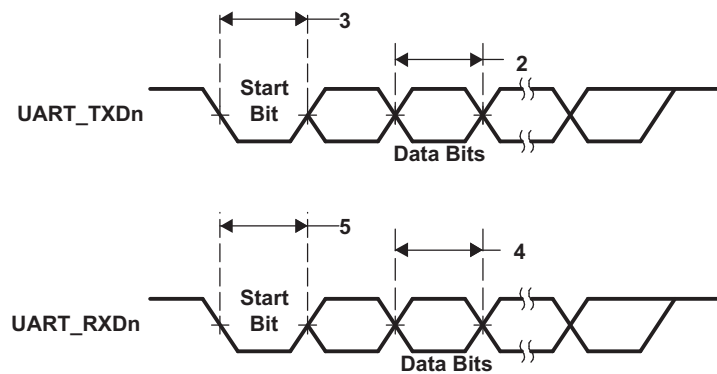

**Figure 6-65. UART Transmit/Receive Timing**
**Table 6-94. Timing Requirements for UARTx Receive(1) (see Figure 6-65)**
(1) U = UART baud time = 1/programmed baud rate.
**Table 6-95. Switching Characteristics Over Recommended Operating Conditions for UARTx Transmit(1) (see Figure 6-65)**